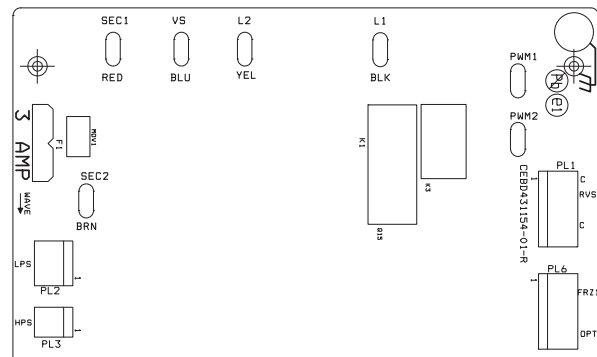

Fig. 22 - UPM Board L1, L2, VS, SEC 1 and SEC 2 Locations
- NO 230V AT COMPRESSOR CONTACTOR:** If the compressor voltage is not sensed when the compressor should be starting, the appropriate contactor may be stuck open or there is a wiring error. The control will flash the appropriate fault code. Check the contactor and control box wiring. Refer to Table 7 and Fig. 22.